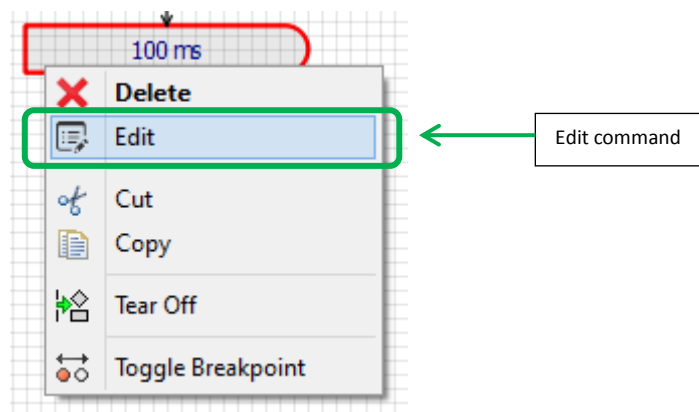

Figure 2-16: Delay block popup menu
Step 3: Next, we want to set the time of the delay to be 1 second. Right-click on the new delay block which was just added to the flowchart, and select “Edit” from the popup menu (Figure 2-16). An alternative method is to left-click on the delay block twice.